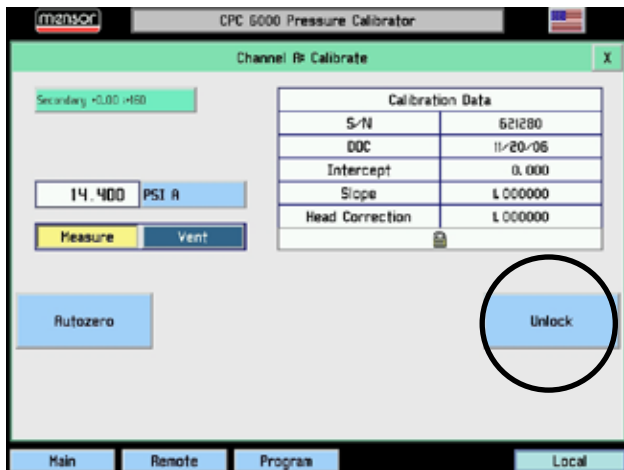

Figure 10.8.2A - Calibration Screen (locked)
The Calibration screen shown in Figure 10.8.2A is the first of several screens relating to the calibration functions. This screen allows the user to perform any of the following tasks:
**[Unlock] Key:** Touch [Unlock] (Figure 10.8.2A) to move on to the password screen. This function is password protected. Details on this function are included in the Calibration section.